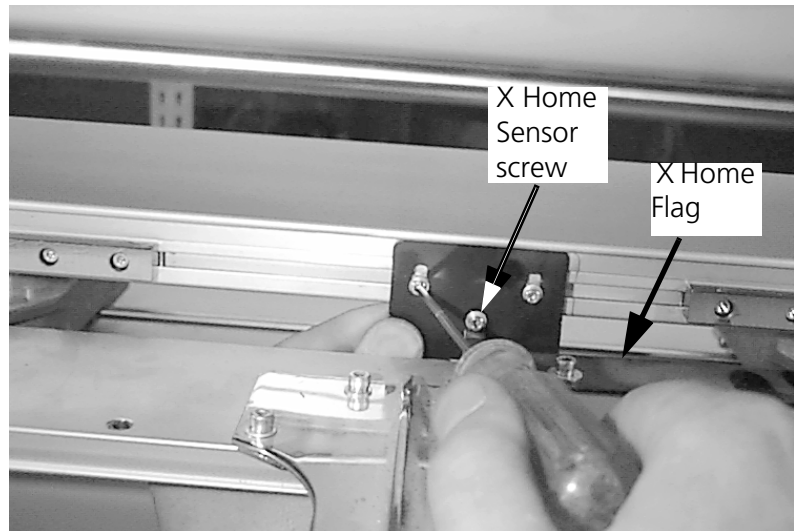

Figure 6-6
1. If replacing the X Home sensor itself, remove the single screw shown in the middle in Figure 6-6 and unplug the connector directly behind it.
2. Loosen the two outer screws (one shown with screwdriver attached in Figure 6-6) to allow home sensor adjustment both vertically and horizontally.